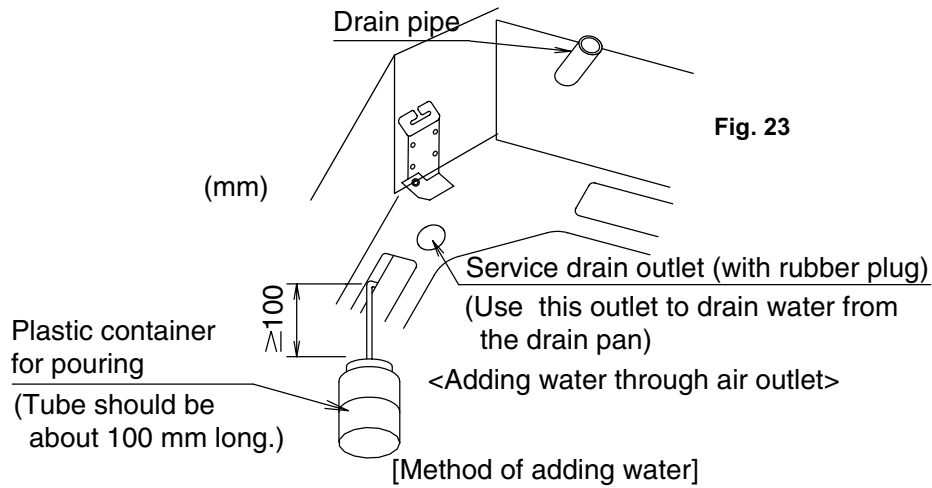
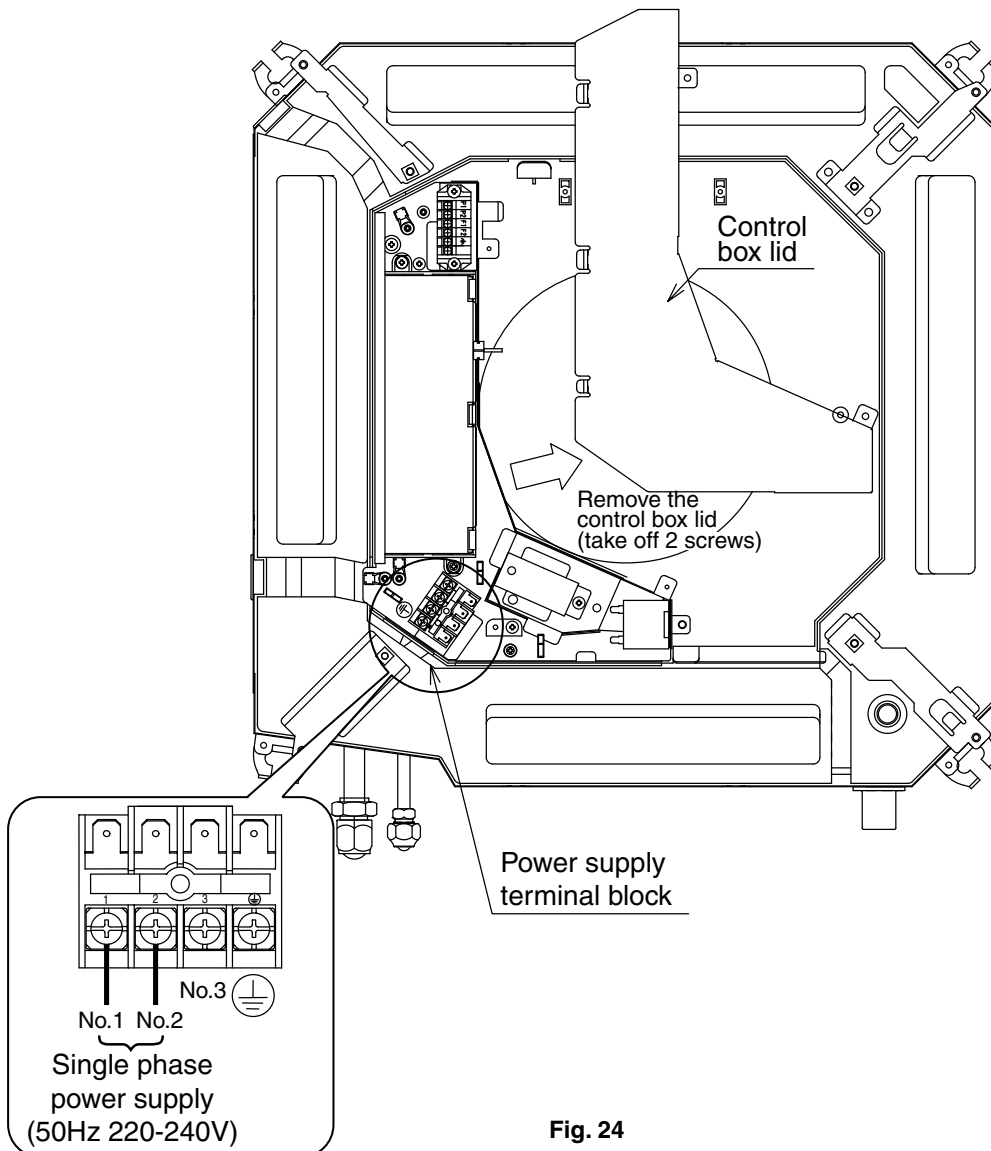

Fig. 23
Fig. 24
- After confirming drainage (Fig.23, Fig.24), turn off the power and remove the power supply.